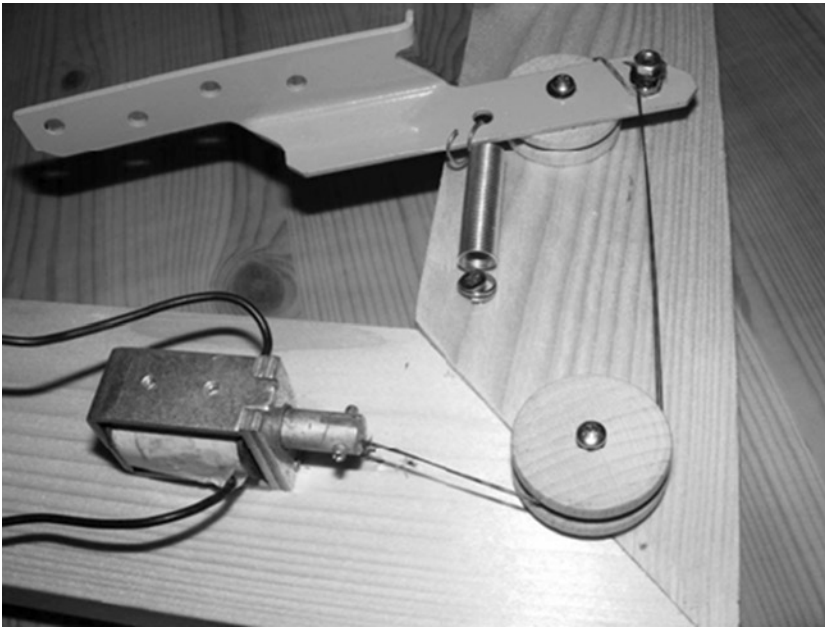

Figure 4-29. Quickie example of using a solenoid
- Some wooden pulleys fitted with spacers as spindles (see Figure 4-29).
Figure 4-29 shows how the project looked when assembled.